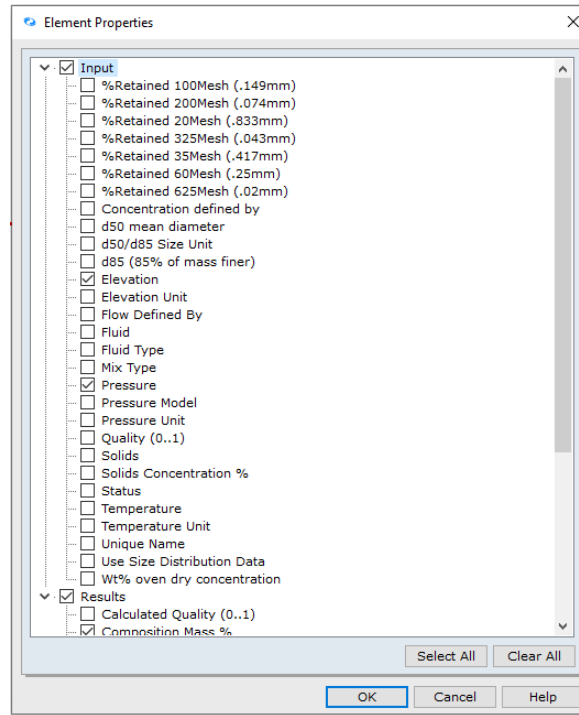

Figure 38: Element Properties Dialogue Box.
41. Now we will select the field titled *Properties* from the Input list. An *Element Properties* dialogue box will appear (Figure 38):